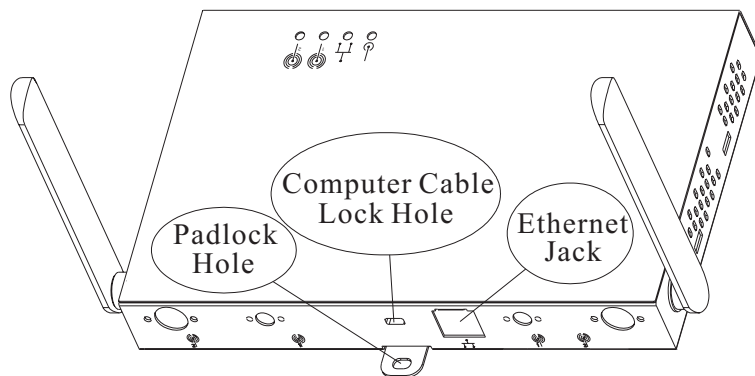
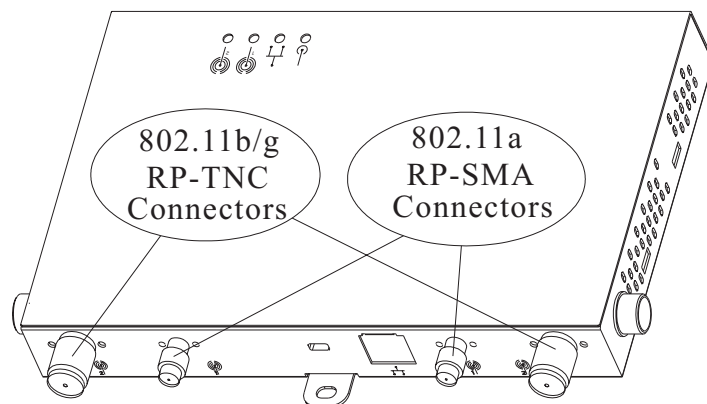

Figure 1: Rear View Of Altitude 300-2i™
Figure 2: Rear View Of Altitude 300-2d™
Figure 1 shows the rear side of the integrated antenna model of the Altitude 300-2i™. The Ethernet cable is plugged into the RJ45 jack. It supplies both network connectivity and power to the unit. The Altitude 300-2i™ can be locked by either a standard computer cable lock inserted in to hole or a padlock in hole.
Figure 2 shows the back of the external antenna model of the Altitude 300-2d™. Like the other model there is an Ethernet RJ45 jack, a standard computer cable lock hole and padlock hole. Connectors for external antennas are on the back of the unit. The two RP-TNC connectors attach to 802.11b/g antennas and the two RP-SMA connectors attach to 802.11a antennas. Two connections are provided for each radio to support signal diversity.
- 6 Connect the computer cable lock (optional). When the Altitude 300-2™ installation does not use the universal mounting bracket, the unit can be locked with a computer cable. The Altitude 300-2™ has a standard computer cable lock hole located at the rear of the box, see Figure 1: Rear View Of Altitude 300-2i™ on page 10, or Figure 2: Rear View Of Altitude 300-2d™ on page 10.
- 7 Connect the external antennas, Altitude 300-2d™. For the Altitude 300-2i™ skip to step 8. The Altitude 300-2d™ has connectors for external antennas, see Figure 2: Rear View Of Altitude 300-2d™ on page 10. The access unit should be located within the reach of the antenna's cables. The large RP-TNC connectors are used for 2.4 GHz 802.11b/g antennas and the small RP-SMA connectors for 5 GHz 802.11a antennas. Two connectors of each type are supplied to support spatial diversity. When this step is completed go to step 10.